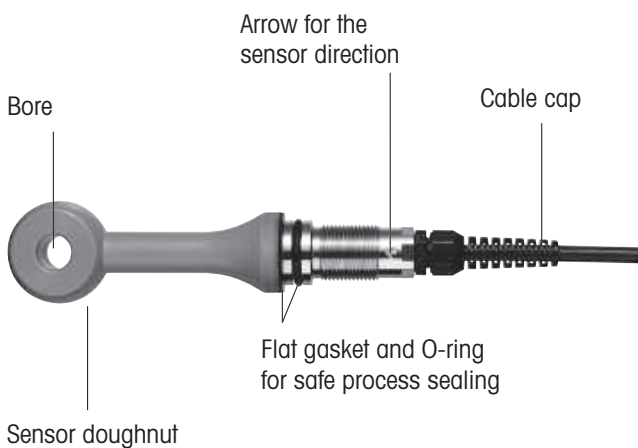

Figure 2: Sensor overview
- The sensors of the InPro 7250 Series are marked with an arrow, which indicates the flat (upstream) face of the sensor, for correct installation in a pipe or a tank. The marking is at the upper end of the sensor mounting thread (see **Figure 2**).